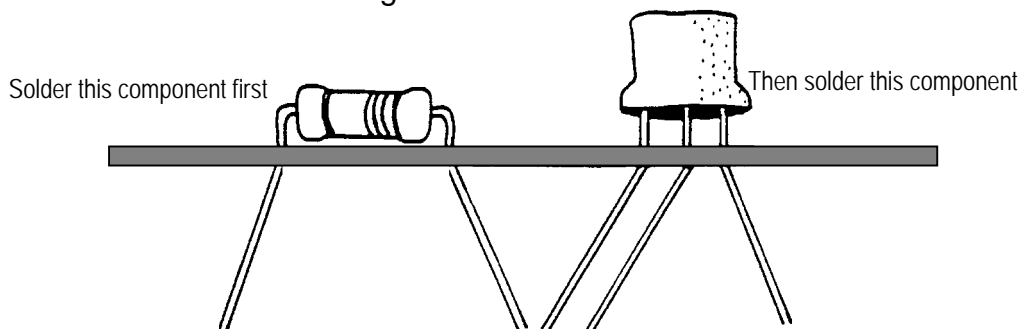

Figure 2
3. Insert leads through holes and splay them (bend them slightly away from each other) as shown in figure 2 so as to hold components in place for convenient soldering.